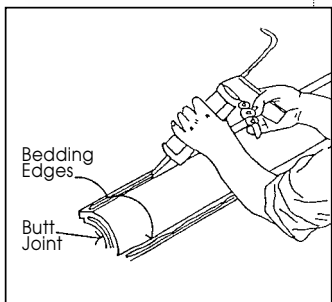

Figure 1
- Apply Focal Point AD3 Adhesive #33333 to top and bottom bedding surfaces, corners, and butt joints (*figure 1*). Screw or nail moulding to the wall and ceiling, spacing fasteners 6" apart and 3/8" from edge.